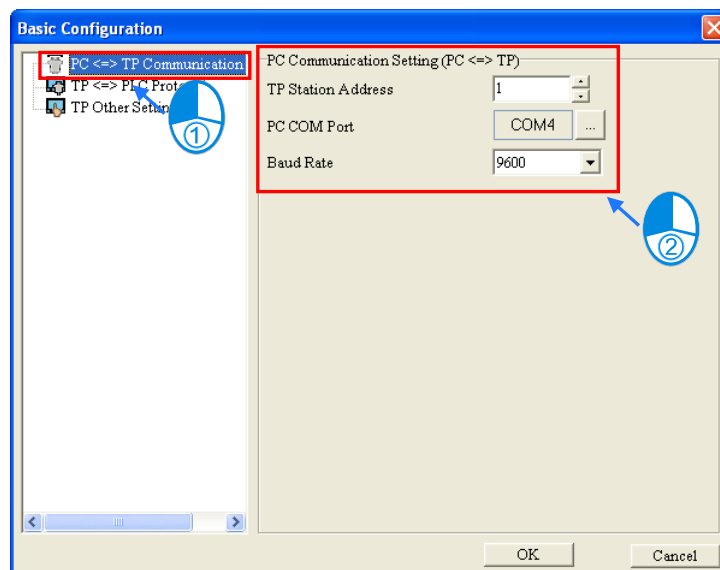

Figure 3-12 Basic Configuration window
Basic Configuration on the **Tool** menu is used to set the text panel used. Users can set **PC<=>TP Communication Setting**, **TP<=>PLC Protocol**, and **TP Other Setting**. The items which can be set vary with the model used. After the users click **Basic Configuration** on the **Tool** menu, the **Basic Configuration** window will appear, as shown in Figure 3-12.
- **PC<=>TP Communication Setting:** Users can set the communication between a TP series text panel and the computer. The value in the **TP Station Address** box is in the range of 0 to 255, and must be the same as the station address of the TP series text panel used. The communication port in the **PC COM Port** box is the communication port connected to the computer. The value in the **Baud Rate** drop-down list box is in the range of 9600 to 115200. Please see Figure 3-12.